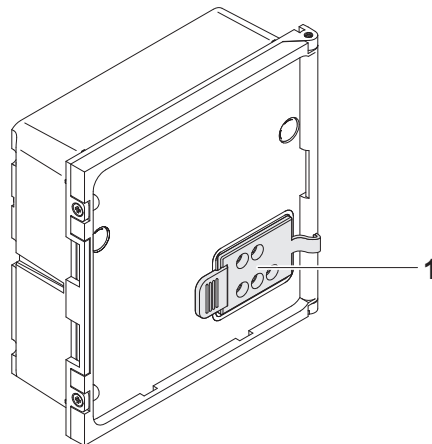

Fig. 3-18 Preparing the MIQ module for docking
| 1 | Pull the cover off the contacts (pos. 1 in Fig. 3-18) on the lid of the MIQ module. |